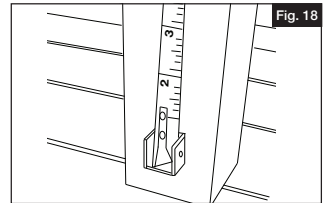

Fig. 18
- Mark the post $34\frac{1}{8}$ " ($34\frac{1}{8}$ " for 34" high panels or $40\frac{1}{8}$ " for 40" high panels) from the bottom bracket attached in Step 1 (Fig. 18 & Fig. 19). Make an intersecting mark representing the desired center line of your installed rail panel (this mark is the top of the bracket). Attach the top bracket as you did the bottom in Step 1.